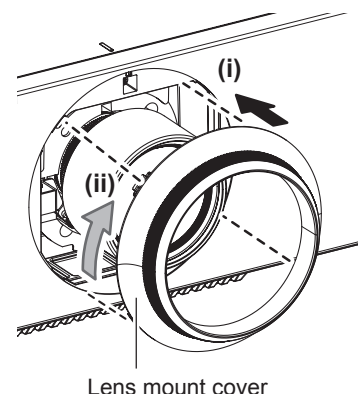

Fig. 3
3) Attach the lens mount cover. (Fig. 3)